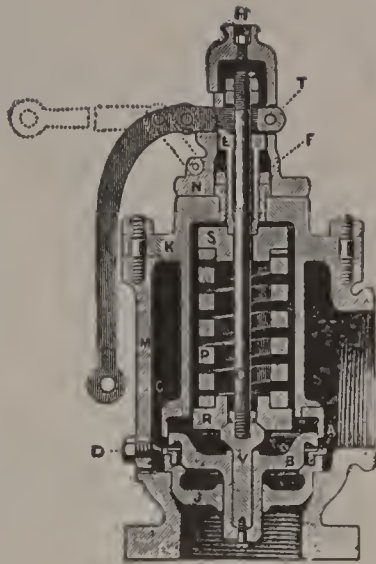

Fig. 1
A.—Remove the set screw D (Fig. 1) from the lower part of the case M, insert a pointed instrument in the screw hole, and with it turn down (to the left) the set ring, increasing the amount of loss, or up (to the right) for decreasing the amount. Then replace the set screw which holds the ring in position.